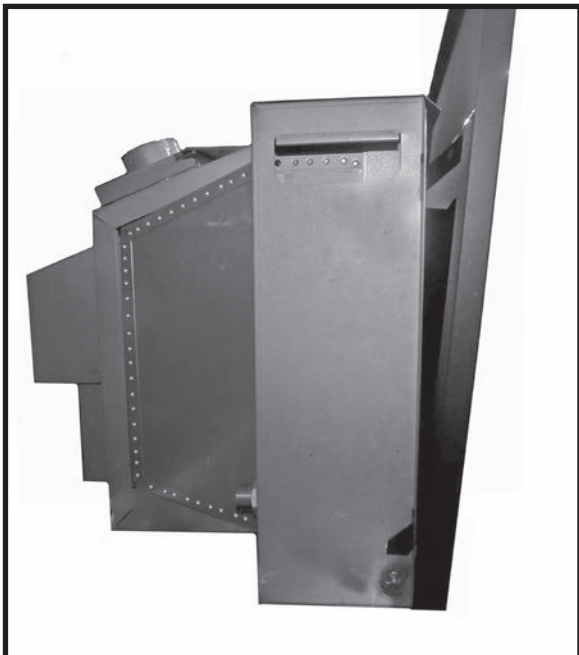

Figure 101: Mounting the backing plate.
2. Place the backing plate onto the fireplace by inserting its four hooks into the four slots on the fireplace frame (Figure 101).